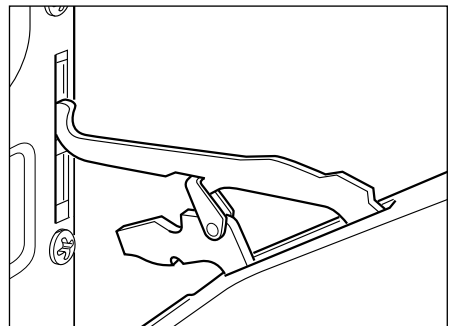

Fig.40d
- Now pull the oven door forwards off the appliance. Release both hinge sections from the slots (Fig. 40d).